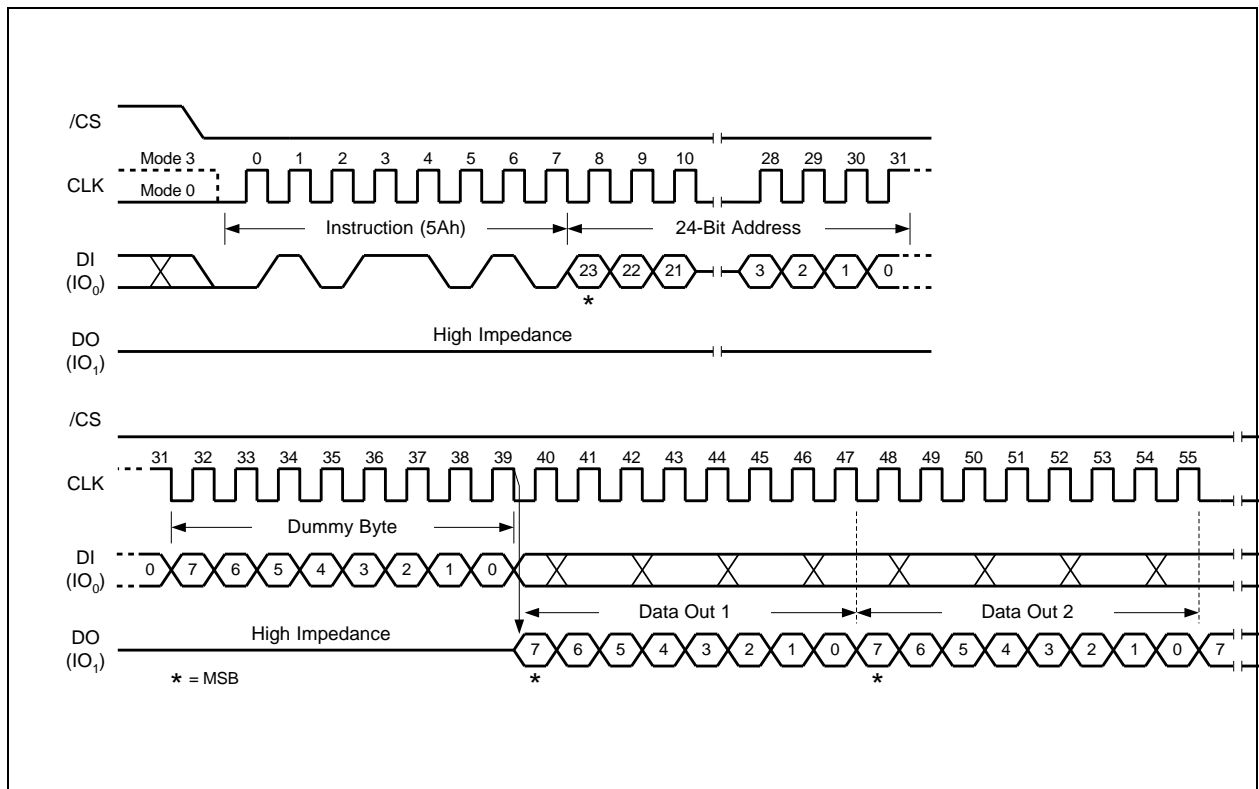

Figure 34. Read SFDP Register Instruction Sequence Diagram
The Read SFDP instruction is initiated by driving the /CS pin low and shifting the instruction code "5Ah" followed by a 24-bit address (A23-A0)(1) into the DI pin. Eight "dummy" clocks are also required before the SFDP register contents are shifted out on the falling edge of the 40th CLK with most significant bit (MSB) first as shown in Figure 34. For SFDP register values and descriptions, please refer to the Winbond Application Note for SFDP Definition Table.